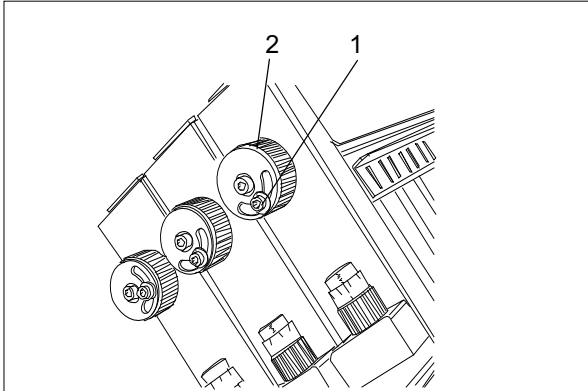

Fig. 51 Angle correction
1. Loosen the Allen screw (Fig. 51/1) by turning it counter-clockwise.
2. Turn the knurled knob (Fig. 51/2) counter-clockwise or clockwise.